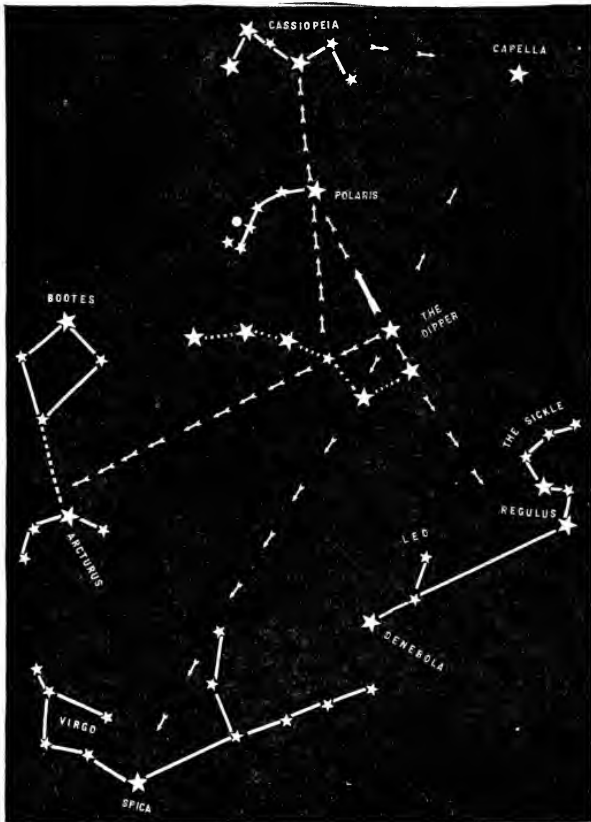

FIG. 367.—The Dipper as an index to the stars.1
**Little Dipper.** A line drawn through the last two stars in the end of the Big Dipper, from the bottom to the top, and extended will pass through Polaris. Fig. 367. The star receives its name from the fact that the earth's orbit points at it. The distance to the Pole Star is so great that it requires about forty-six years for the light to come to us.